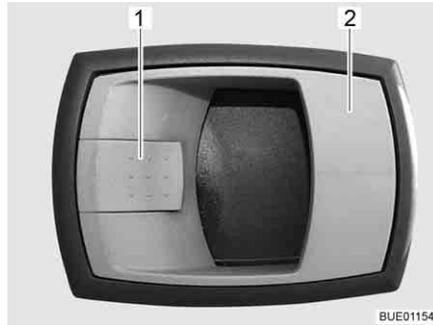

Fig. 32 Door lock of conversion door, inside
- Pull on the handle (Fig. 32,2). The door lock is unlatched.
- Press the locking lever (Fig. 32,1).